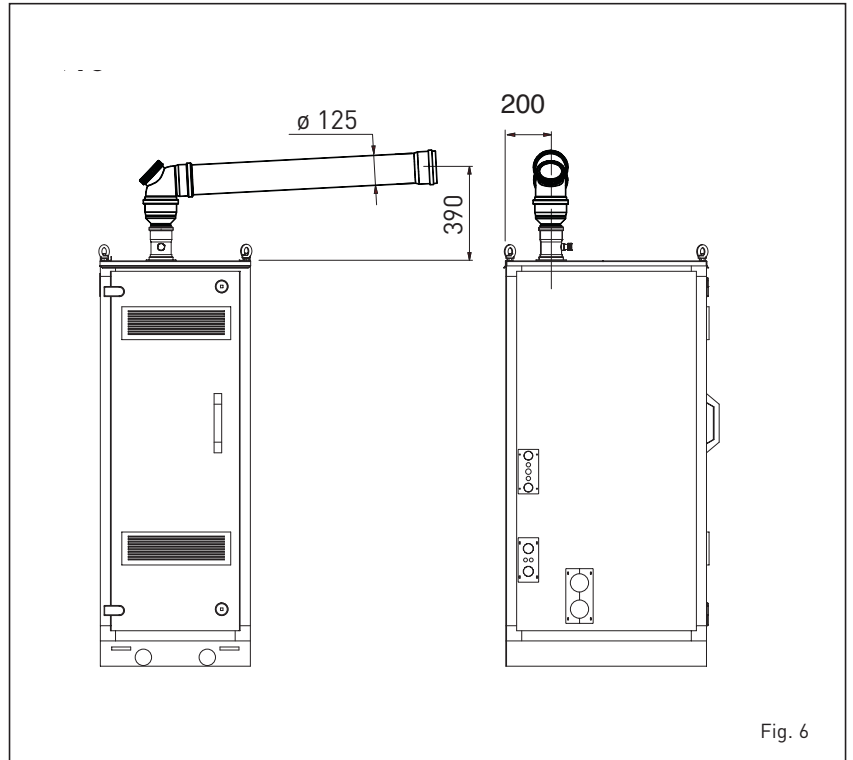

Fig. 6
2.6 INDOOR INSTALLATION EXHAUST KIT (fig. 6)
Refer to fig. 6 for this type of installation.